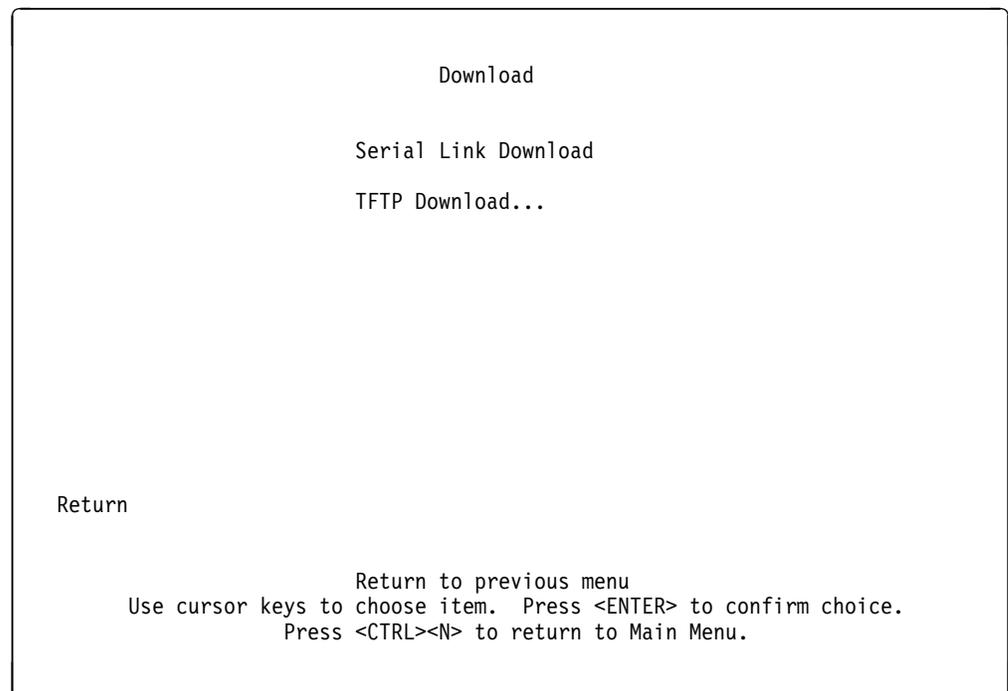

Figure 4-2. Download Menu
- Step 5.** When the Download menu appears (see Figure 4-2), select **Serial Link Download** or **TFTP Download...**